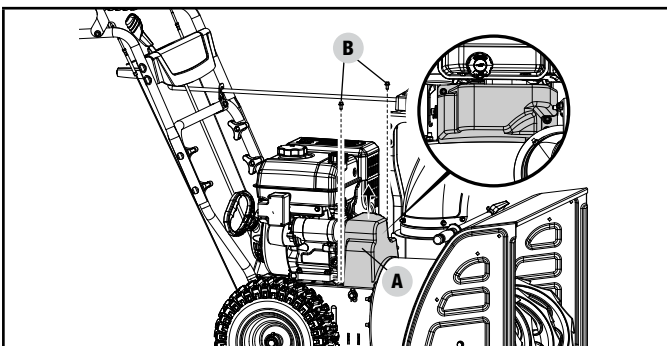

Figure 47
10. Install the plastic belt cover (A) using two M6 × 16 bolts (B) set aside from an earlier step. Torque until snug. Do not overtighten or you risk damaging the plastic belt cover (Fig. 47).